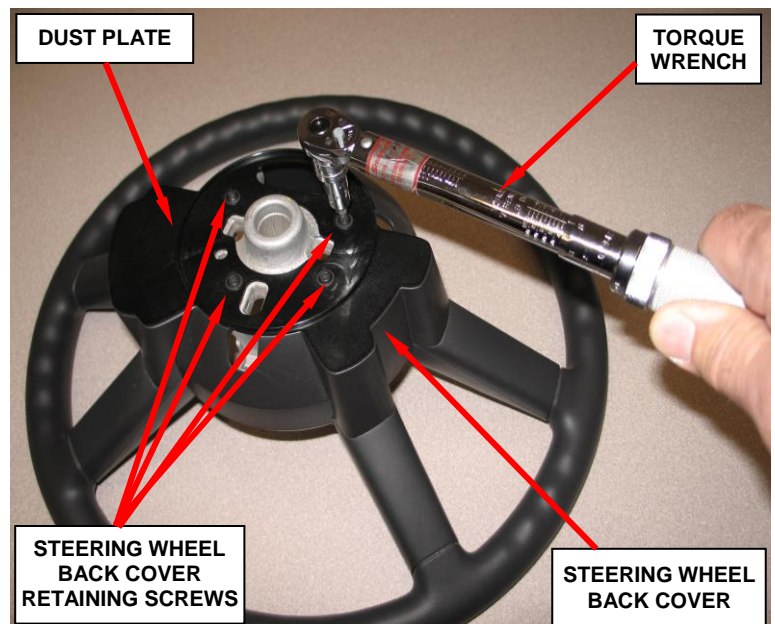

Figure 7 – Steering Wheel Back Cover
24. **Vehicles that are equipped with a dust plate**, remove and discard the original steering wheel back cover retaining screws and dust plate (Figure 7).
29. Remove and discard the original steering wheel back cover (Figure 7).
33. Install a steering wheel cover and retaining screws (Figure 7). Tighten the screws to 35 in. lbs. (4 N·m).